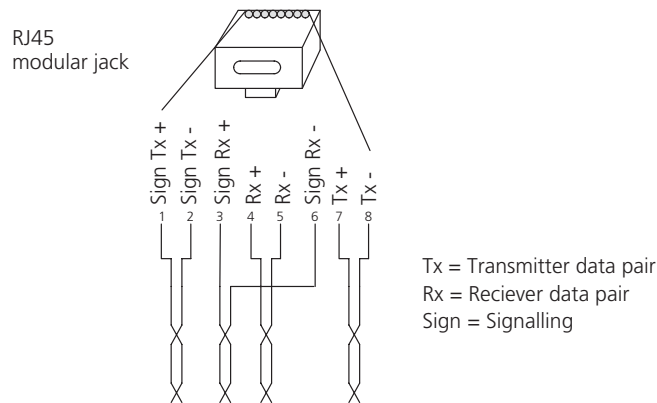
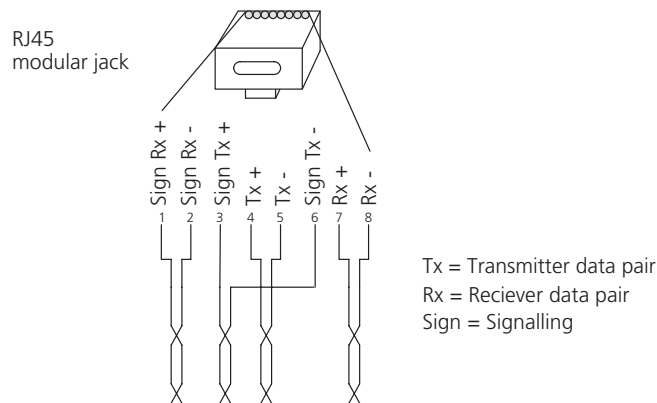

Figure 13. Connector pinning of the Sync IN cable
Figure 14. Connector pinning of the Sync OUT cable
- 2 Connect the cable to a RJ45 modular jack. For information on pinning, see Figure 13 and Figure 14.